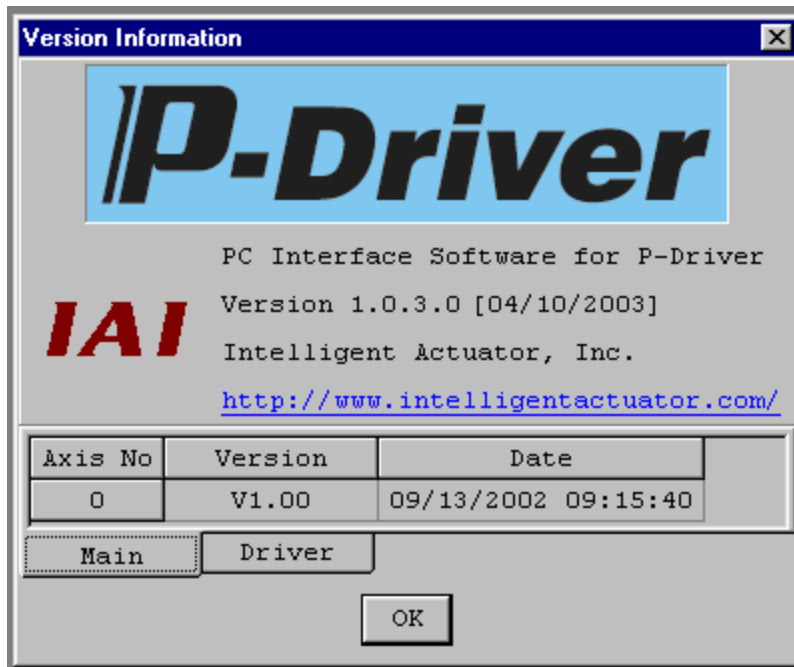

Figure 9.8.1 Version Information
a. Select Help (H) and then About (A) from the menu.
b. The window shown in the Figure 9.8.1 appears.